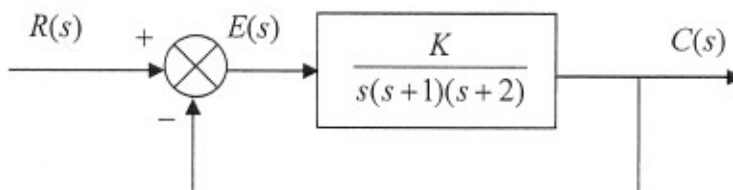

Figure 4
6. [Marks: 18] Given the unity feedback system of Figure 4, do the following for the system: